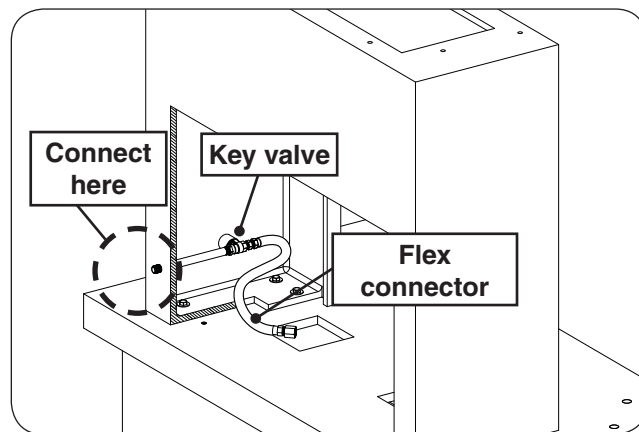

Fig. 16-1 Route gas supply
1. Route the gas supply (natural gas, household propane, or from an L.P. Cylinder) to the unit as applicable (see Fig. 16-1).